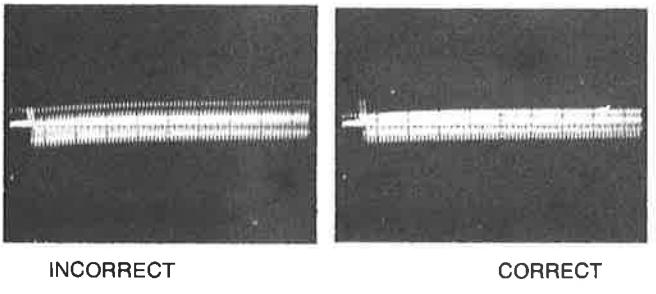

Fig. 23—Chroma Null
4. Adjust R3329 for minimum p-p signal see Figs. 23 & 27.